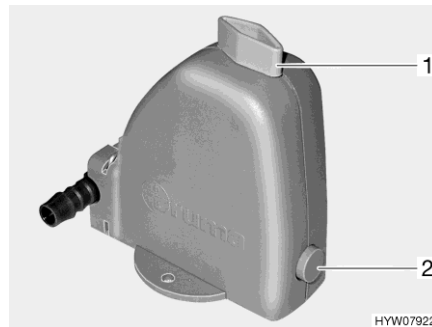

Fig. 104 Safety/drainage valve
The heater is equipped with a safety/drainage valve (Fig. 104). The safety/drainage valve prevents water for the production of hot water from freezing, when there is frost and the heater is not switched on.
- Close the safety/drainage valve. Turn the knob (Fig. 104,1) perpendicular to the safety/drainage valve and push the push button (Fig. 104,2) in.
- Open the safety/drainage valve. To do this turn the knob (Fig. 104,1) parallel to the safety/drainage valve. The push button (Fig. 104,2) jumps out. The domestic water container is emptied to the outside through the safety/drainage valve.